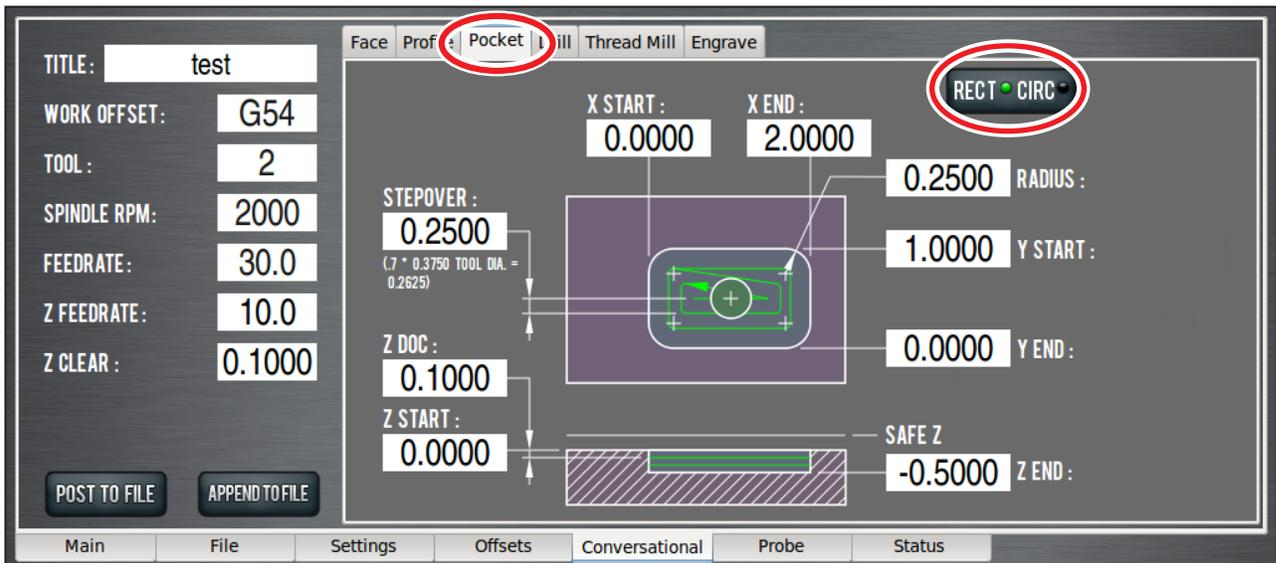

Figure 6.30
*Pocket* cuts a rectangular or circular pocket (cavity). The rectangular pocket can have a corner radius specified, or otherwise the tool paths have sharp corners (see **Figure 6.30**).